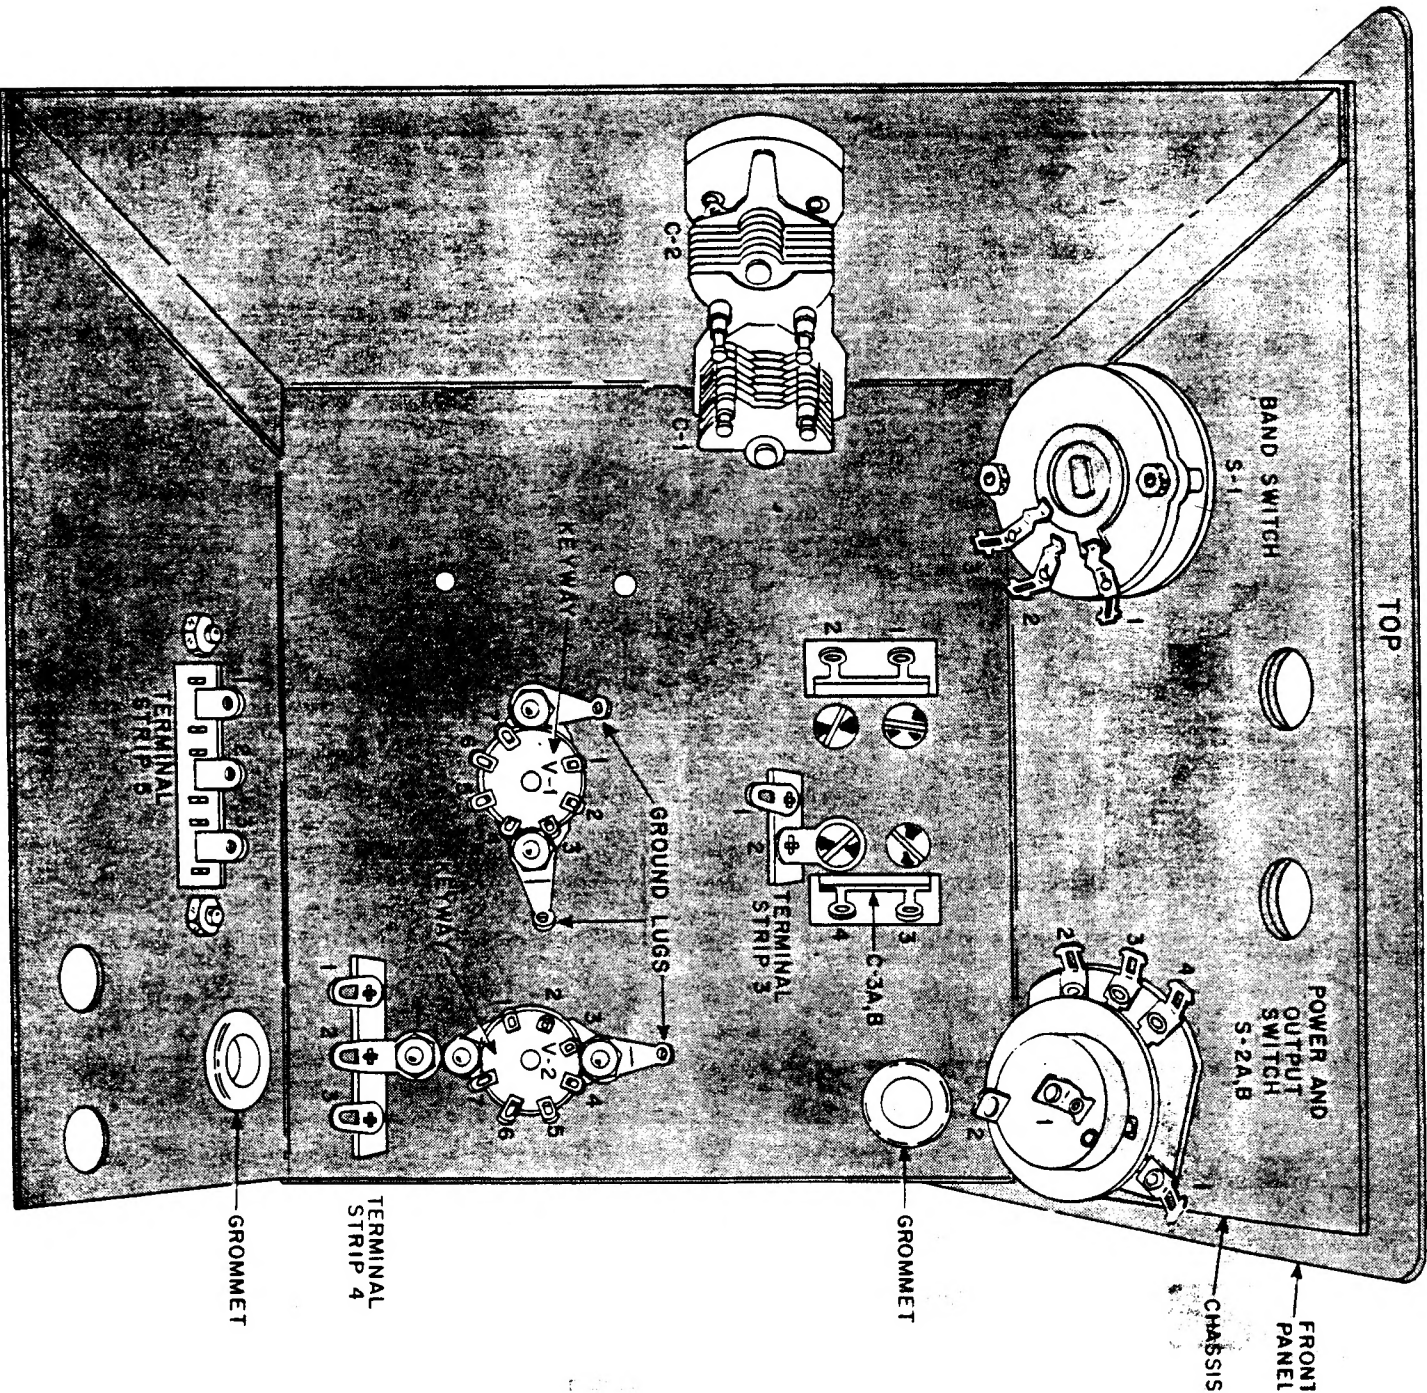

FIGURE 6. HOW TO MOUNT THE PARTS ON THE OSCILLATOR CHASSIS
SEE FIGURES 6 AND 7.
SEE FIGURE 6.
- () Mount the light colored socket for V-1, the 6BH6 oscillator tube, inside the chassis in the large hole nearer the center. The keyway or wide space between two of the pins must be toward the left as shown in Figure 6. Place a ground lug under each mounting nut and use two of the smaller machine screws and nuts to fasten V-1.
- () Mount the last bakelite socket for V-2, the 6AK6 huffer tube, from inside the chassis. The keyway or wide space between two of the pins must be toward the back of the chassis as shown in Figure 6. Put a ground lug under the front mounting nut and use two of the smaller machine screws and nuts to fasten V-2.
SEE FIGURES 6 AND 8
- () C-1 and C-2 are both 75 MMFD air padder capacitors. Mount one on the left inside the chassis as shown in Figure 6. Use two of the four machine screws packed with C-1 and C-2. Use the other two machine screws to mount the other air padder right above the first.
- () Check all of the work. Be sure the parts are positioned as shown in Figure 6. The socket keyways must be as shown, the terminals on the switches must be toward each other, and the air padders must be as shown.